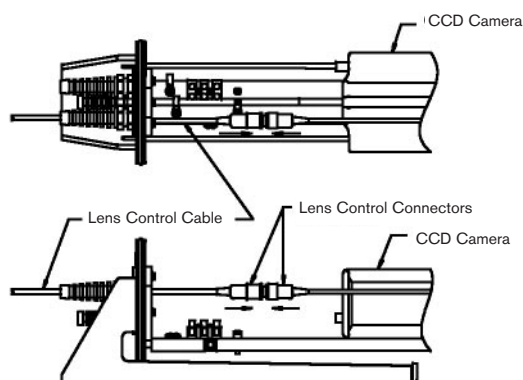

FIGURE 12 Lens Control Cable Wiring
**If installing a zoom lens,** insert the lens control cable with installed flexible fitting in through the fitting on the right rear of the base assembly. Attach the lens wiring to the lens mating connector and connect it to the lens. If mating connector is not available, connect directly to the lens cable. Pull any excess cable through the liquid-tight fitting and tighten the flex fitting to 8.5N-m to 9.0N-m (75in. lb to 80in. lb). This torque rating is approximately 1 to 1 1/2 turns past finger-tight, depending on the size of the wire. Failure to do so will result in water damage to all electronic parts. Use a tie wrap (included) to provide strain relief on the lens control cable at the exit point (inside the unit). See FIGURE 12.